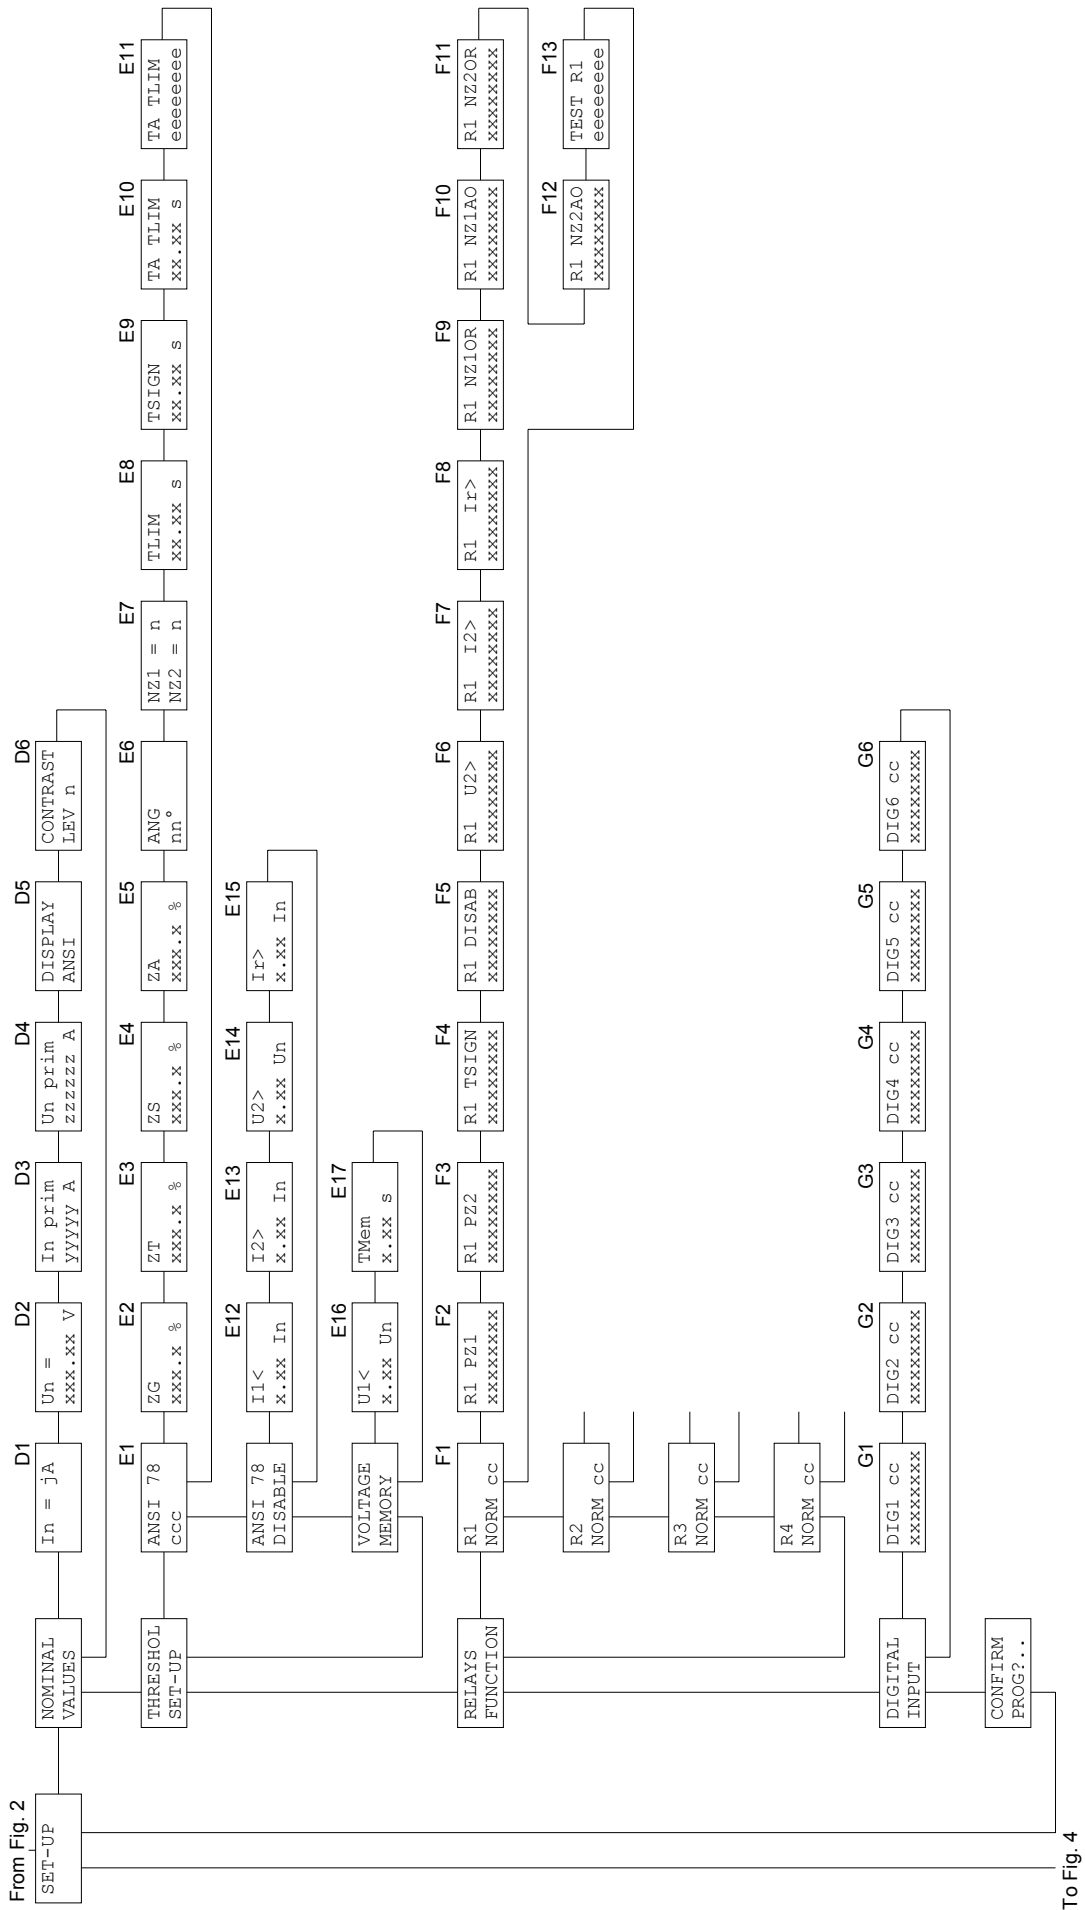

Figure 3
- 5) **CONFIRM** the new protection relay set-up at the visualization CONFIRM PROG? (Fig. 3, ref. J1) within 5 minutes depressing the push-buttons [ENTER] and  up to visualize **YES** and [ENTER] again to confirm.
When the output relays test is selected (Figure 3, ref. F13) it is possible to command an output relay (one at the time) to trip from the current status allowing functional tests on electrical plants.
5.5 Nominal values set-up (figure 3)**D1 - NOMINAL CURRENT SELECTION - I_n (programmable)**
5.6 Thresholds and time delays set-up (figure 3)